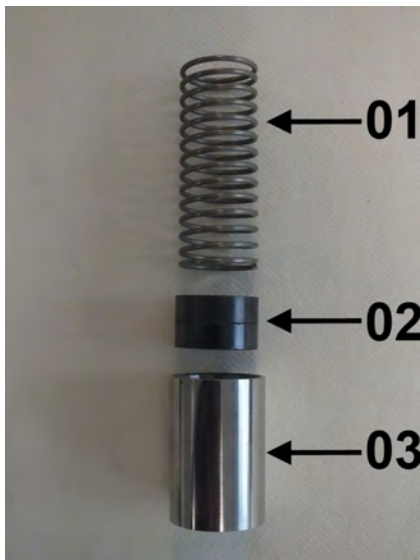

Fig. 52: Inner parts
8. ➤ Insert spring (Fig. 52/01) with magnets (Fig. 52/02) into the float (Fig. 52/03), ensuring proper magnetic pole orientation (north pole toward device outlet).